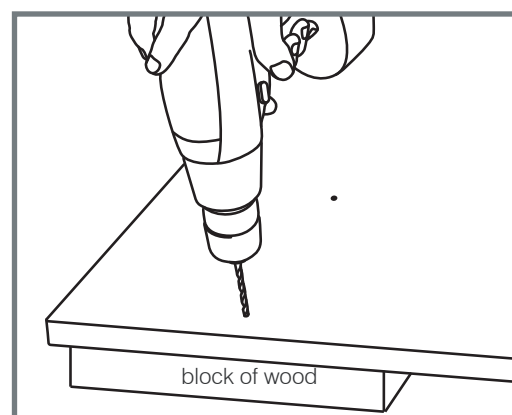

Figure 1
- Carefully drill any holes using a clamped block of wood to protect the front of door - See figure 1.